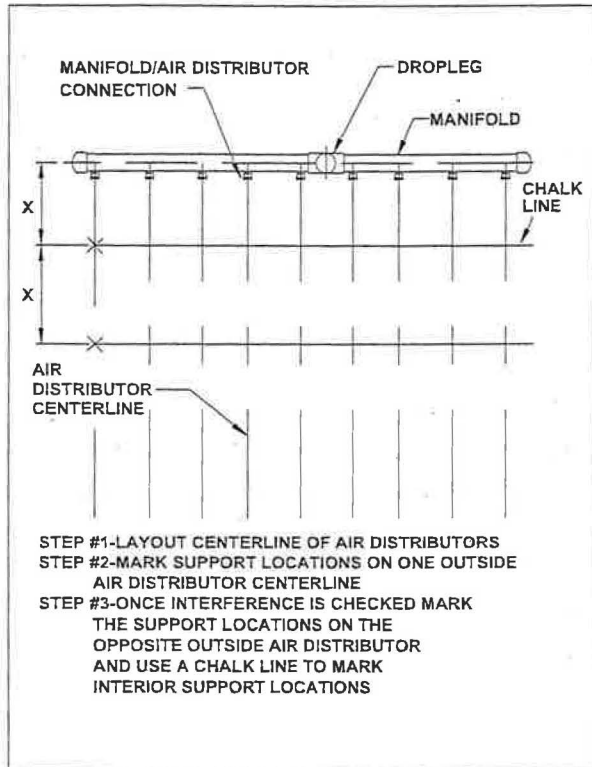

Figure 16
1. Using the erection drawings and the manifold air distributor connections as a guide, layout the centerline for each air distributor and drainline if applicable. See Figure 16, Step 1.
2. Mark the air distributor support locations on one of the outside layout lines. The spacing is shown on the erection drawings. See Figure 16, Step 2.
- Layout the locations of all air distributor support stands. See Figure 16, Step 3.